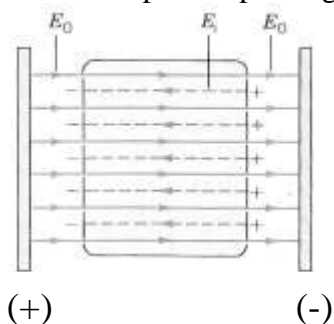

Fig.5
- The **dielectric constant** ( $\kappa$ -kappa) of a substance is a measure of "**how much it get polarized**" under the effect of an external electric field. A polar molecule ( $H_2O$ ,  $NH_3$ ..) has a **permanent electric dipole moment**. In presence of an external electric field, there is a torque effect which tends to align the dipole moments  $\vec{p}$  along the direction of exterior field ( $\vec{E}_0$ ). At non-polar molecules ( $H_2, CH_4$ ..), the **exterior field induces**, at first, an electric moment and then the torque tends to align it along  $\vec{E}_0$ . In both cases, the dielectric surface in front of capacitor plates get opposite sign charge to that of the plate in front (fig.5).